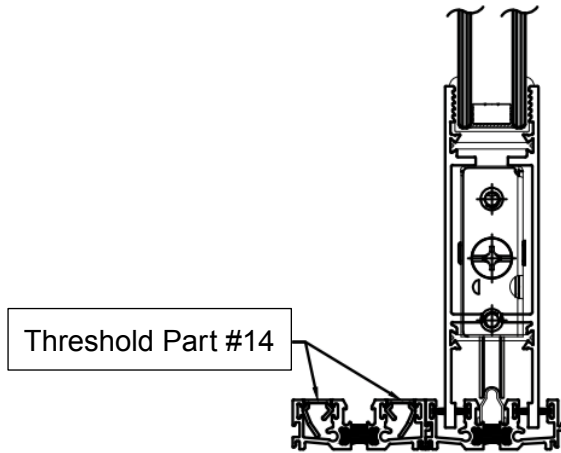
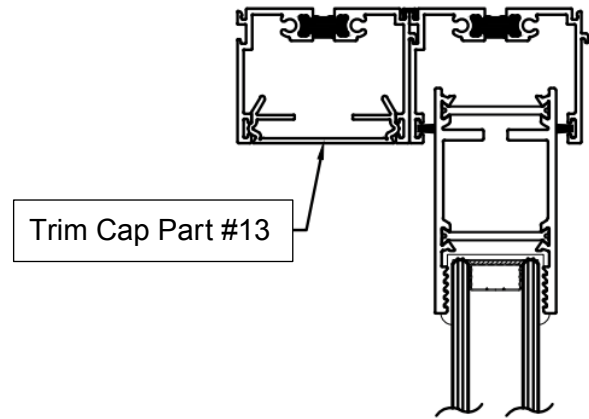

FIGURE 17A
FIGURE 17B
22. Install thresholds (Part #14) into the exterior sill track (Part #8) shown in figure 17a then install the trim cap that is the same length as the threshold into the exterior head track (Part #6) shown in figure 17b.